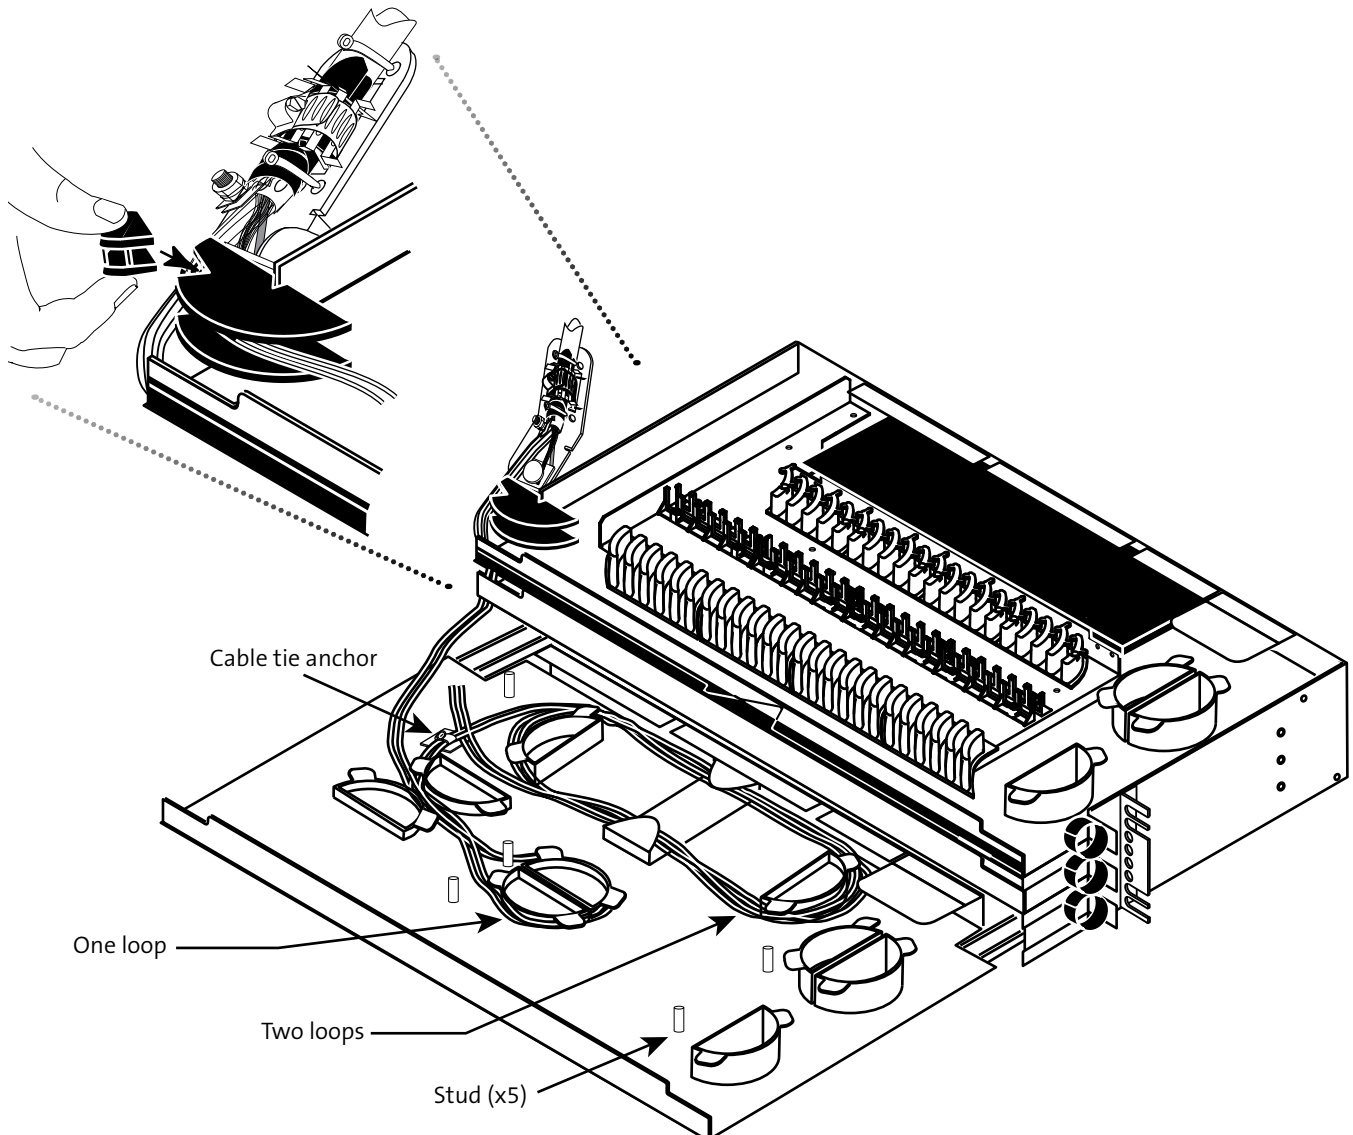

Figure 14
- Step 1:** The connector shelf is held in place on five studs (Figure 14). Pry up the connector shelf to access the fiber guides. Once buffer tubes have been routed, replace the shelf.
- Step 2:** Bring cable into the HDF drawer and route around fiber guides as illustrated in Figure 14. It is important that the drawer be pulled fully forward before routing the buffer tubes.